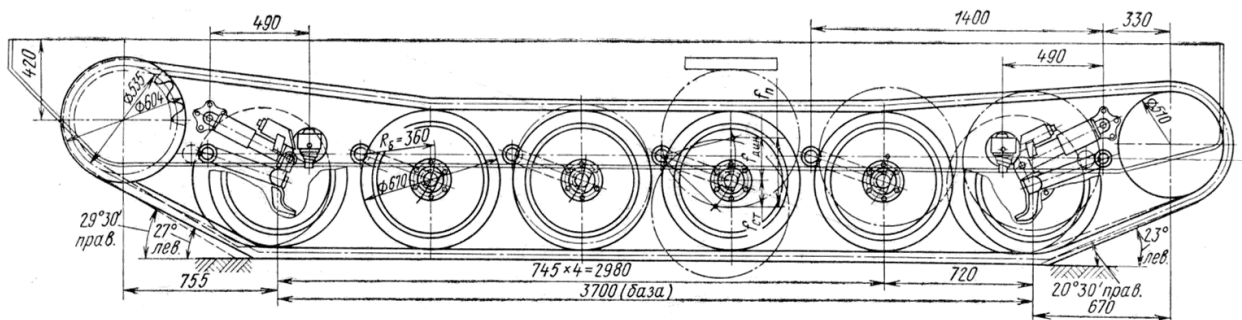
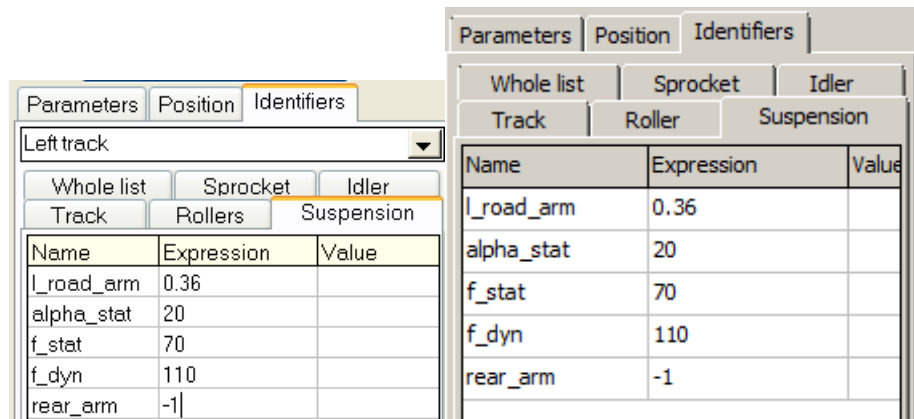
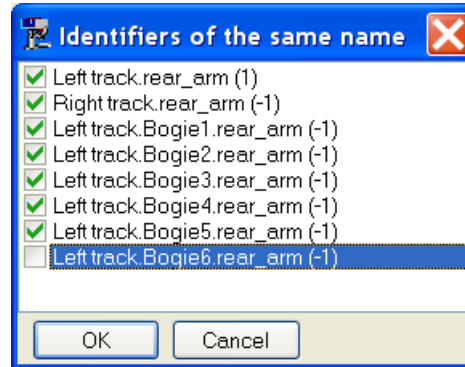
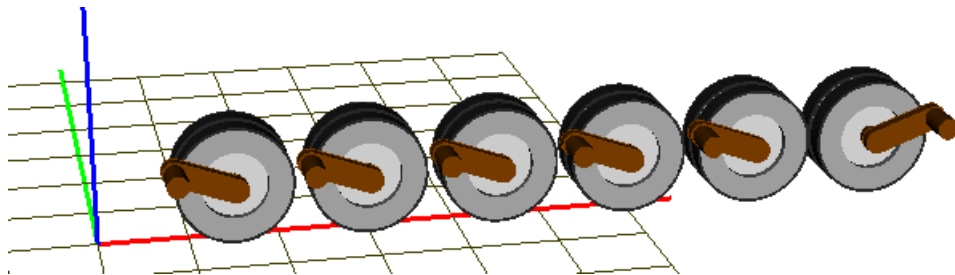

Figure 1.1. Data on prototype of TV
Figure 1.7. Selected identifiers of torsion bar suspension
Figure 1.9. Road arm orientation
Figure 1.10. Suspension with modified parameters
A Russian light crawler transporter is considered as the prototype of the model. Figure 1.1 shows some geometric data related to the tracks [1].
Following the data in Figure 1.1 fill in cells of the tab as in Figure 1.5. Note, that the origin of SC0 in the X-direction is located on the level of the sprocket center.
2. Now some parameters of the suspension must be modified. Open the **Identifiers | Suspension** tab of the wizard, Figure 1.7. Set the length of the torsion arm 0.36m (the identifier
As it is shown in Figure 1.1, five road arms have a backward orientation but the front one, which has a forward orientation. So far, all arms in our model are oriented forward. The orientation is defined by the identifier  $rear\_arm = \pm 1$ . The value  $+1$  corresponds to the backward orientation. To set the necessary values of this identifier in the subsystems, set  $rear\_arm = +1$  in the cell in Figure 1.7 and press Enter. Uncheck the assignment of the new value in the lower row, Figure 1.9. As a result, orientation of five road arms will be changed, Figure 1.10.